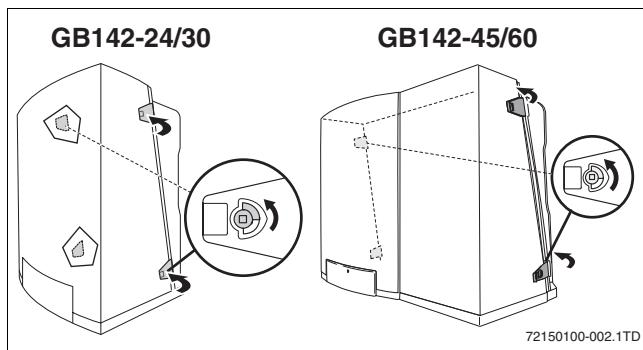

Fig. 2
- Remove the casing (→ fig. 2).